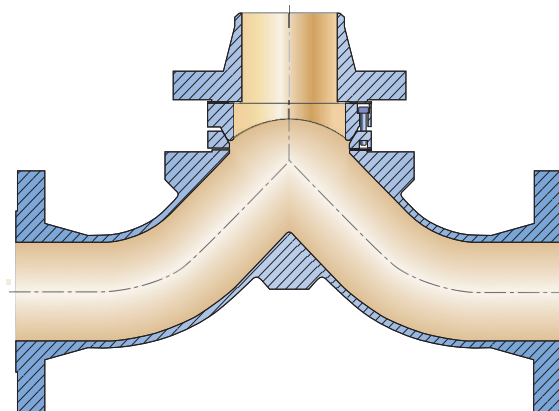

FIGURE 1. This viscous-tee holder design continually wipes the disc surface, preventing product buildup
- Use of a “viscous tee” style holder (Figure 1), which continually wipes the disc surface, preventing product buildup